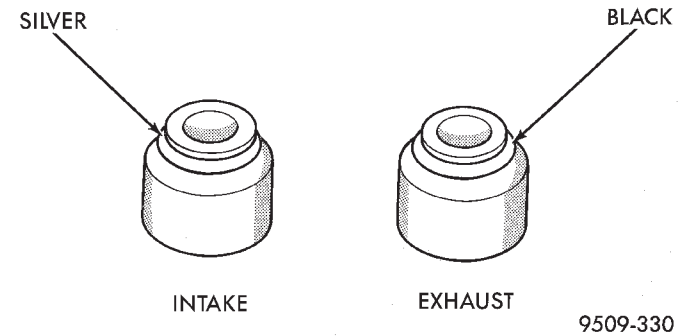

Fig. 55 Valve Stem Seal Identification
- (1) Install the silver valve seal onto the intake valve guide and the black seal onto the exhaust valve guide (Fig. 55).